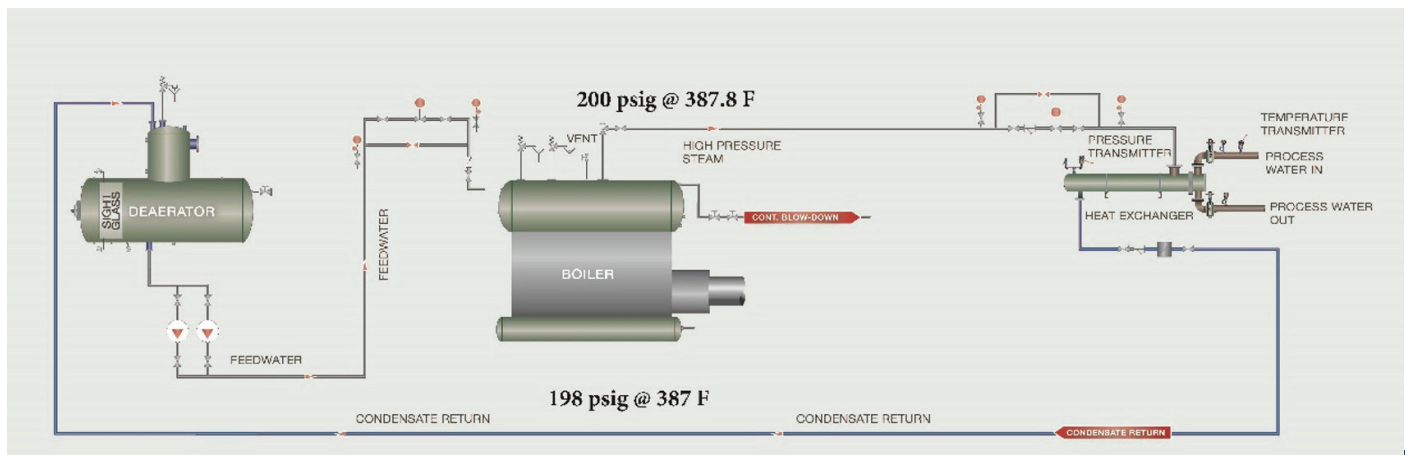

Figure 1. Close to a Perfect Steam Balance
**Figure 1** illustrates a close to perfect steam balance, with 200 psig @ 387.8°F steam going out to the end users with a 198 psig @ 387°F condensate return system and a deaerator operating at 198 psig @ 387°F supplying the boilers. The end user process requires the latent energy of steam. When that latent steam is released, there is no temperature or pressure variance, and the condensate that contains the sensible energy is returned to the deaerator operation at a high pressure.